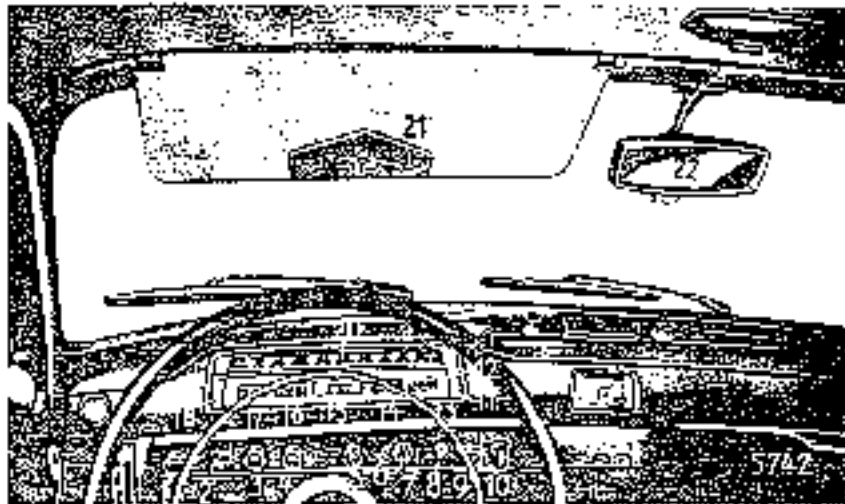

Fig. 30-6/7
3. Back out the adjusting nut (25) and the two rubber bushings (24) of the coil spring (22) (see Fig. 30-6/6).
2. Unscrew the control knob on the pull switches (1, 3, 4, and 5) and remove the felt ring (Fig. 30-6/7).
3. Use Hook Wrench 136 589 02 05 to unscrew the guide screw of the pull switches (1, 3, 4, and 5) and of the rotary light switch (2) and remove the guide screw from the mounting plate toward the rear (Fig. 30-6/7).
4. Unscrew the control knob (9) for the choke control and remove the guide screw (Fig. 30-6/7).